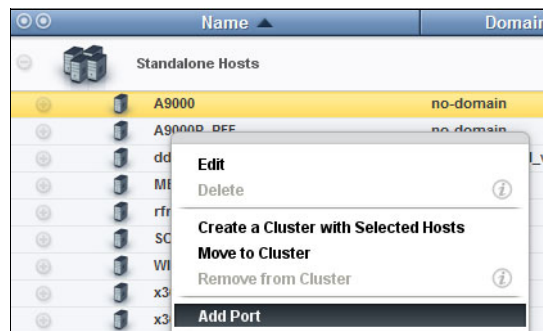

Figure 8-7 Navigating to Add Port
3. To add ports, right-click the host as shown in Figure 8-7.